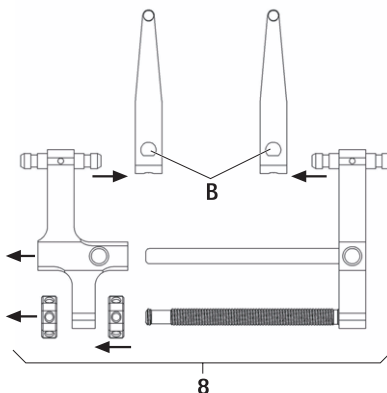

Fig. 4
- Dismantle distractor 8 with the distraction blades, see Fig. 4: Activate slider B and remove distraction blade FW239R.